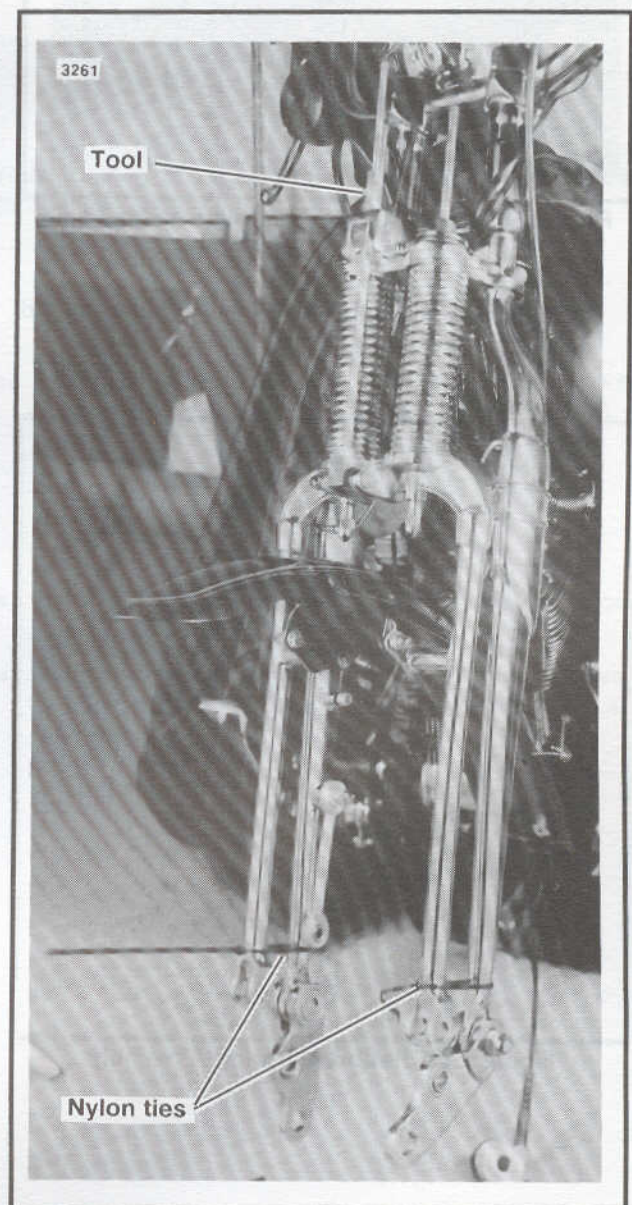

Figure 2-57. Tool Use
Tool use: (Figure 2-57)
- See Figure 2-57. Use the tool and compress the compression (lower) springs until they bottom on the travel bumpers.